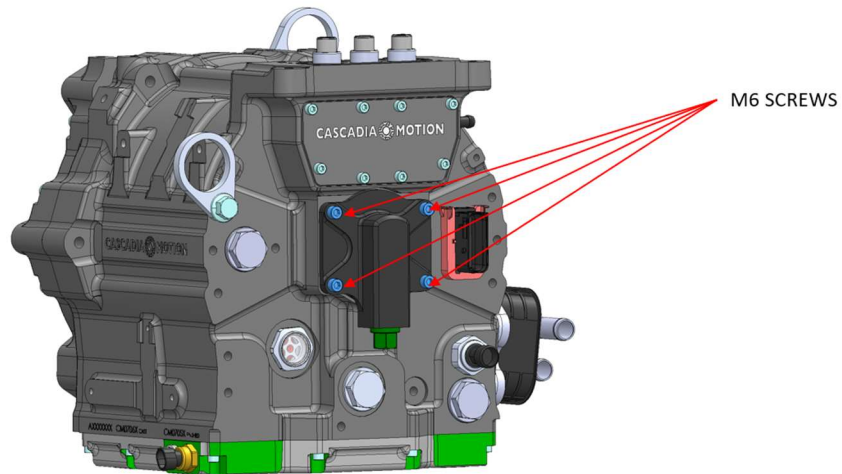

**Figure 3.1 Standard Oil Pumping Rotation**
- Unless otherwise specified the pump components will be installed so that oil is pumping when the motor is rotating in its forward (counterclockwise (CCW)) rotation. See Figure 3.1.
- Oil will not pump when the motor is rotating in reverse (CW) rotation.